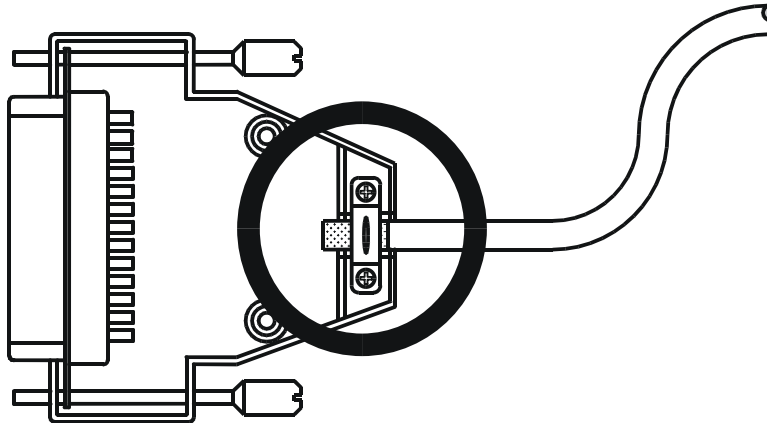

Fig. 1: Shielding of SUB-D connectors in conformity with EMC standards.
- Only use metallized connectors, e.g. SUB-D with metallized housing. Make sure that the strain relief is directly connected with the housing here as well (see Fig. 1).